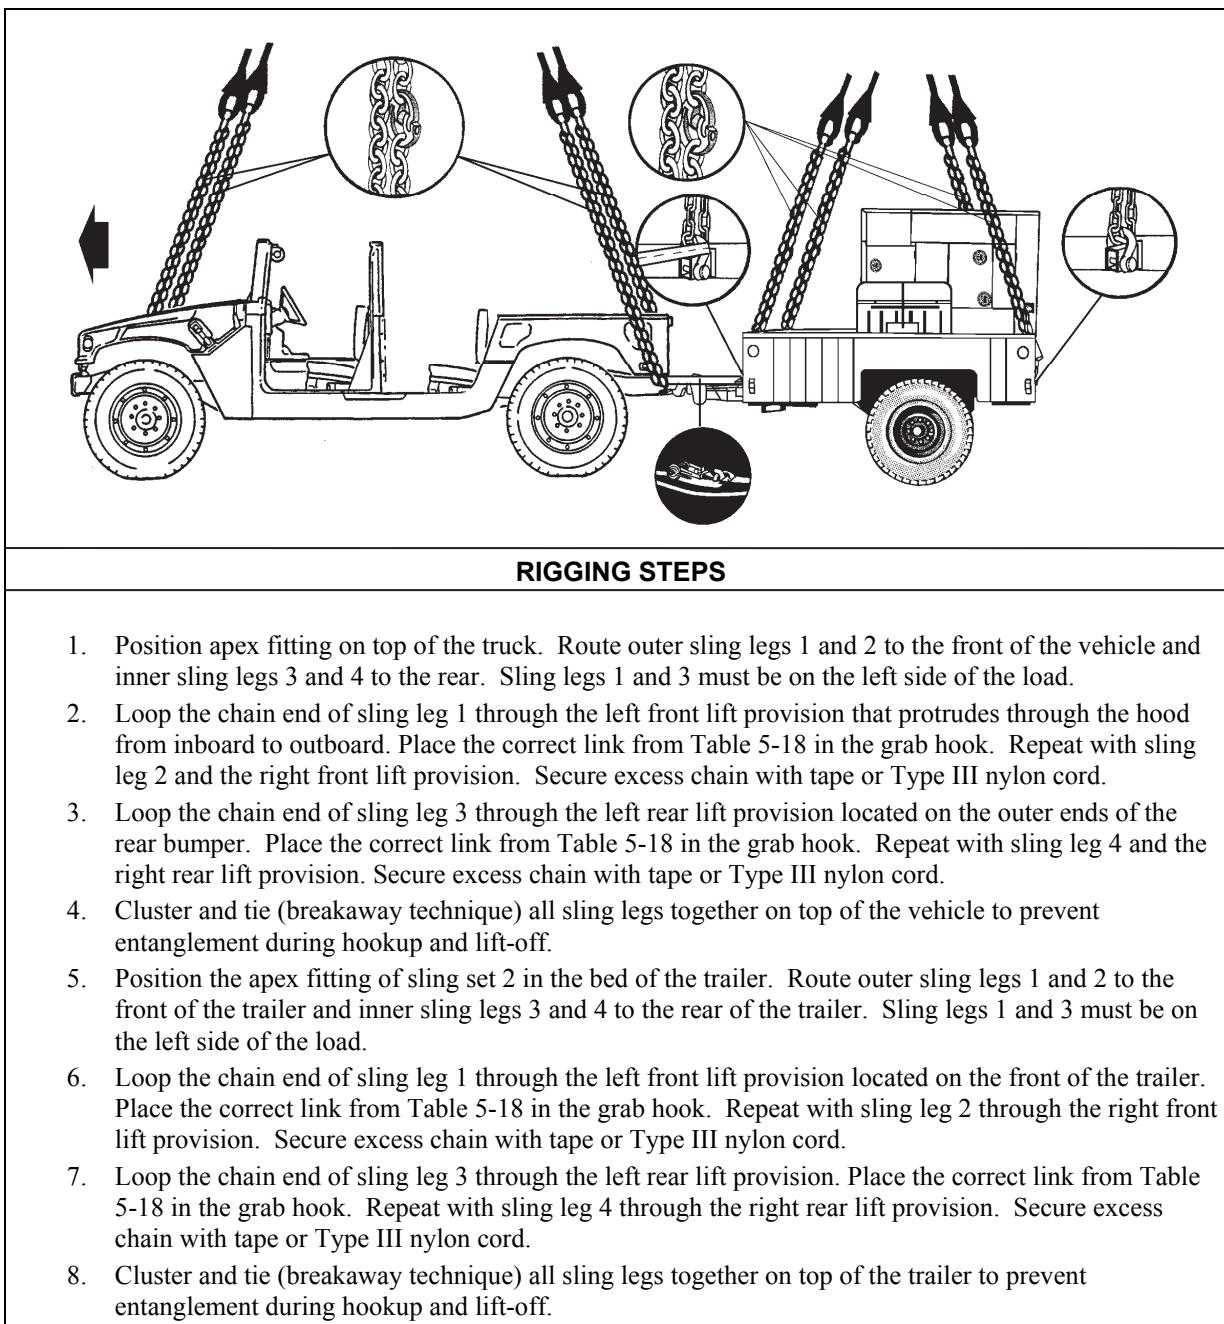

Figure 5-18. JSTAR Common Ground Station Support Vehicle, M1097 HMMWV and M1102 High Mobility Trailer
- **Rigging.** Rig the load according to the steps in Figure 5-18.